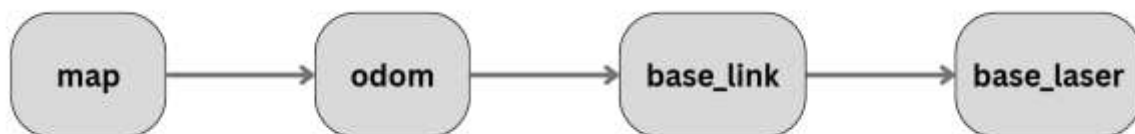

Fig. 10 Transform Tree for Nav-2
A. Transforms of Note for First-Time Robot Setup [Fig 10]